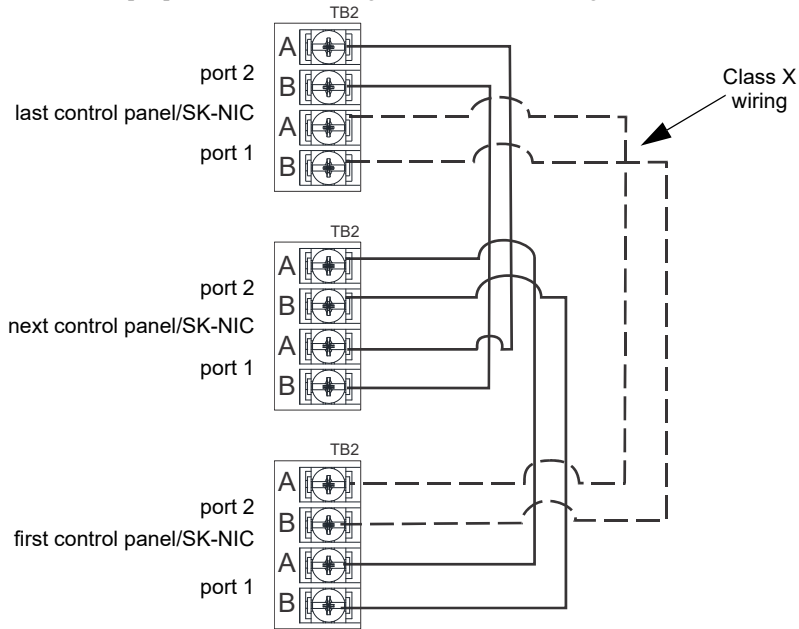
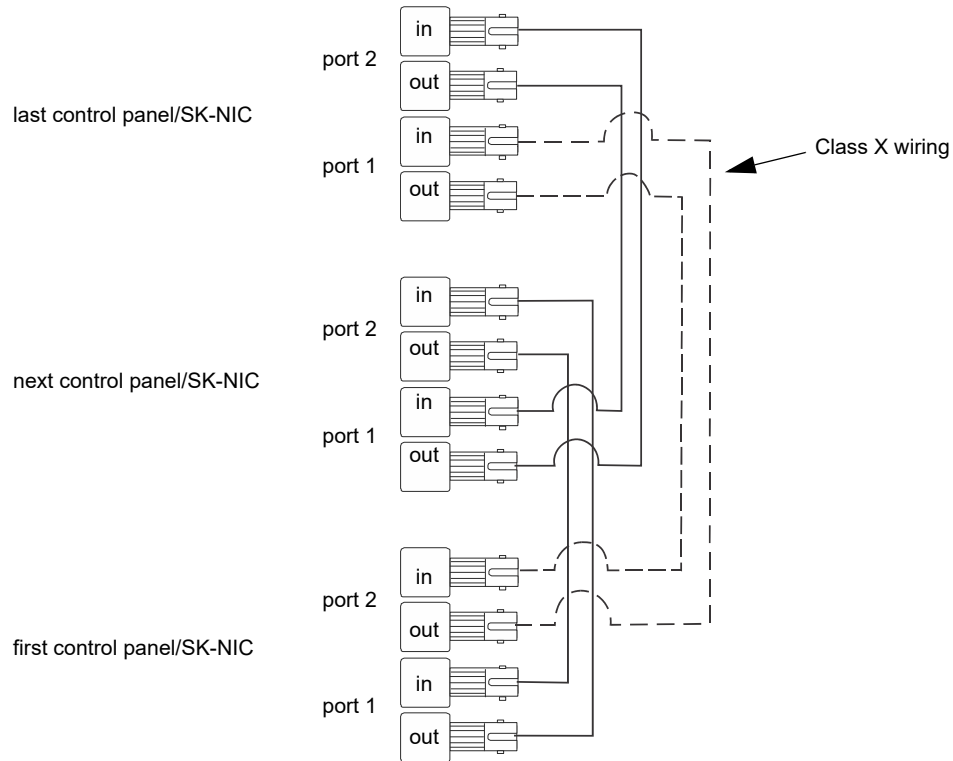
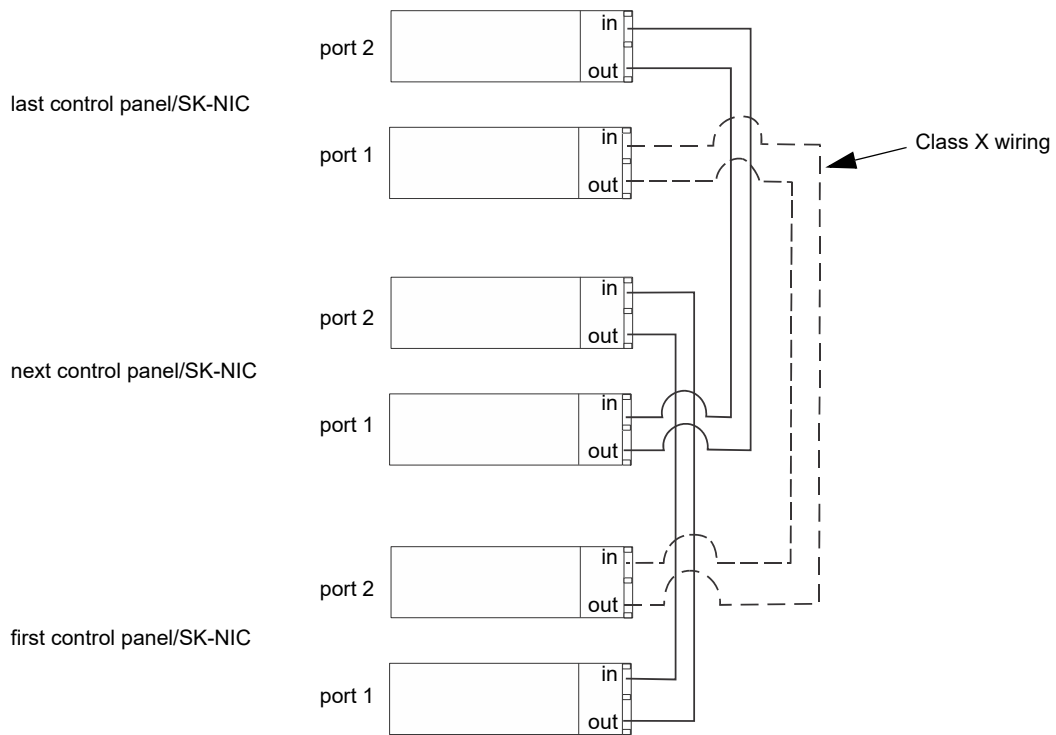
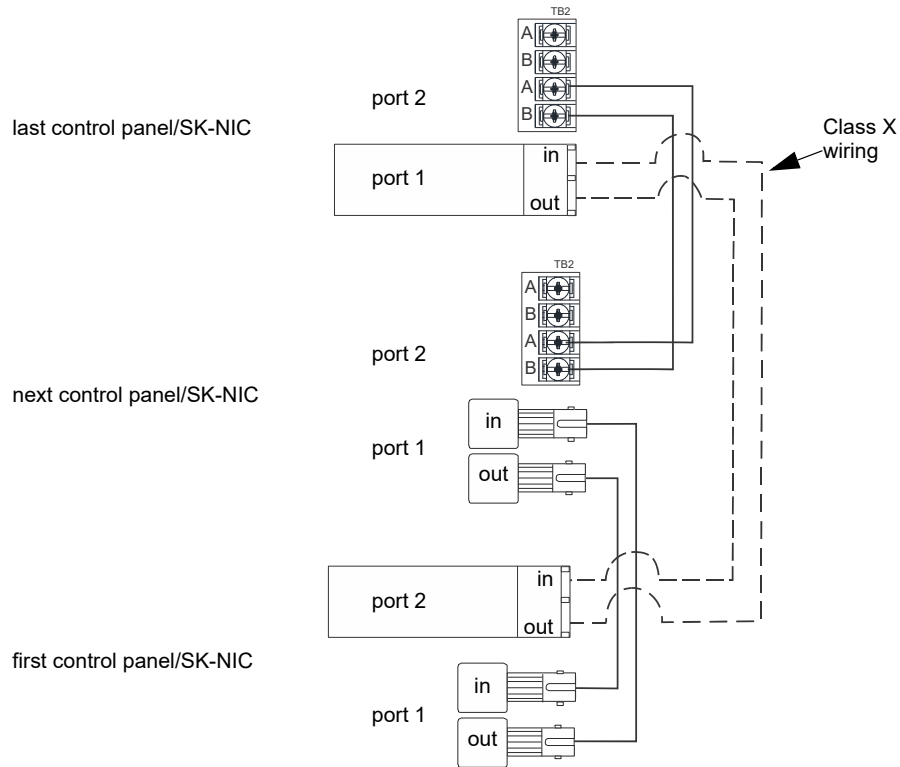

Figure 5.7 Twisted Pair Wiring Configuration
Figure 5.8 Fiber-Optic Wiring Multi-Mode Example
Figure 5.9 Fiber-Optic Wiring Single-Mode Example
Figure 5.10 Twisted-Pair and Fiber-Optic Combination Wiring Example
- Based on the type of data medium chosen, run the twisted pair wiring/fiber optic cable to the next SK-NIC using a class B or class A wiring method. A combination of both medium types can be used. See Figure 5.7, Figure 5.8, Figure 5.9, and Figure 5.10 for SK-NIC wiring examples.
Unshielded twisted pair wiring between multiple panels is shown in Figure 5.7. Class X wiring is shown with a dotted line.
Fiber optic cable between multiple panels is shown in Figure 5.8 and Figure 5.9. Class X is shown with a dotted line.
A mixture of fiber optic cable and twisted pair wiring between multiple panels is shown in Figure 5.10. Class X cabling is shown with dotted line.